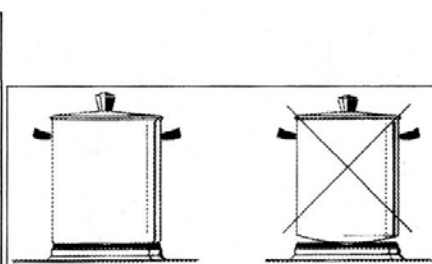

Fig. 14
- Use pans with a flat bottom and in thick metal (see Fig. 14).